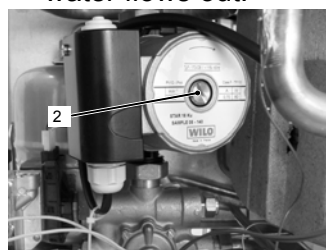

Figure 15.3
- Purge the air from the pump by unscrewing the pump plug 2 (Fig. 15.3); release the pump by turning the rotor in the direction indicated by the arrow